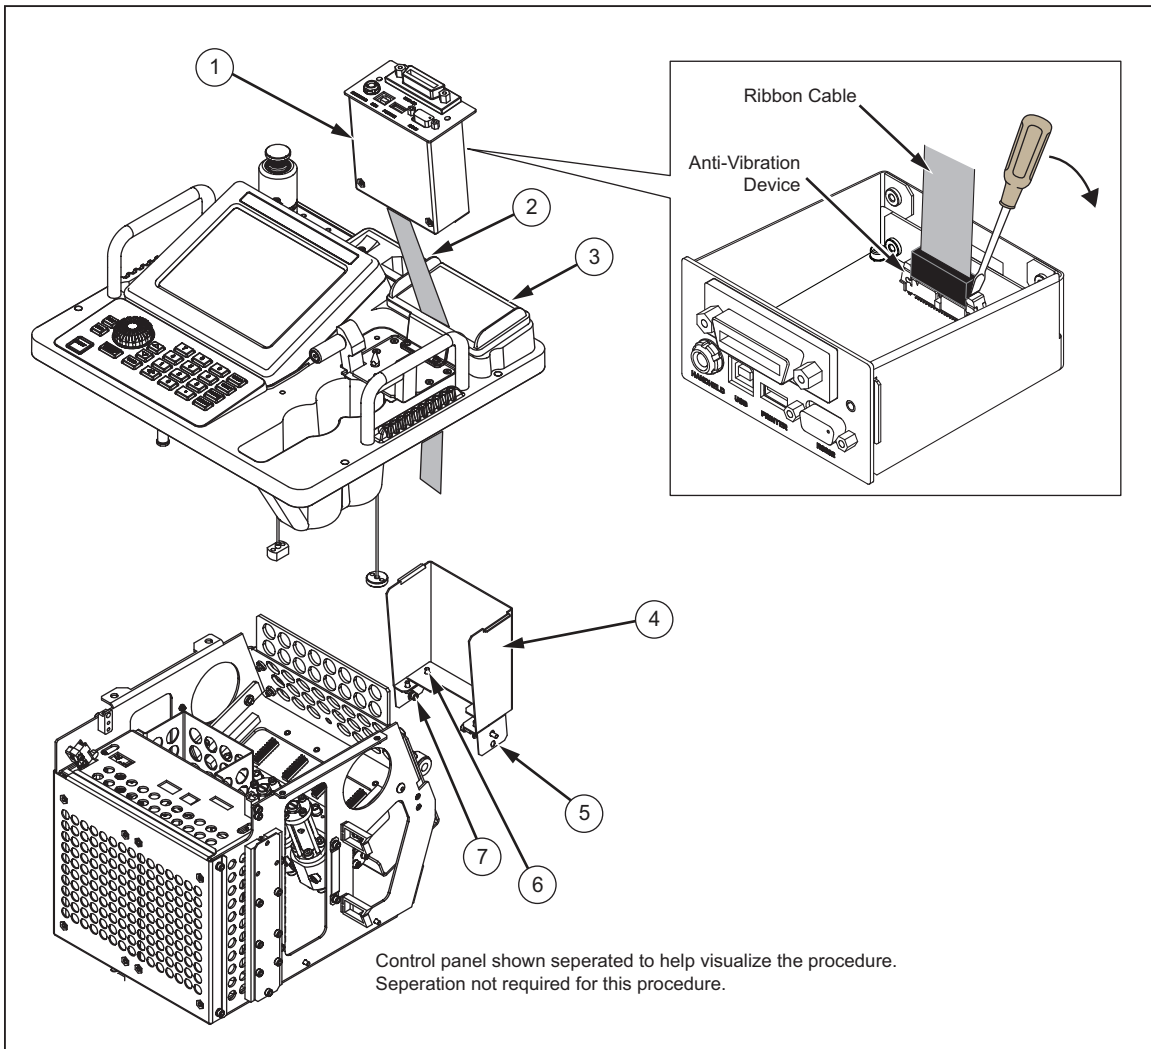

Figure 4-12. Communications Box Replacement
Use the following instructions and reference Figure 4-12 to replace the communications box (①):